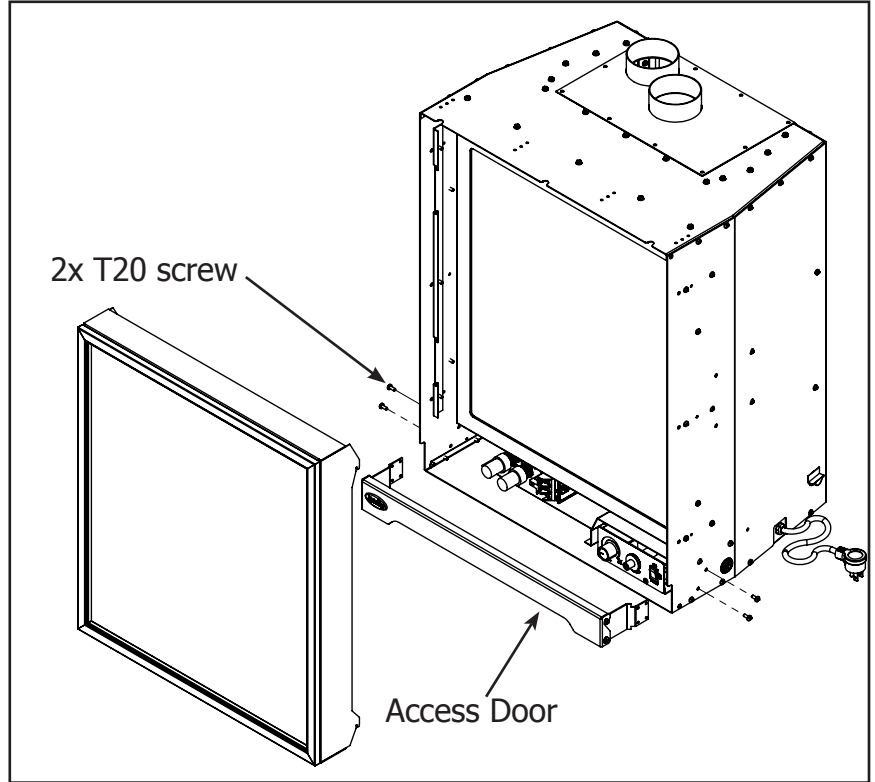

Figure 2: Screen and Access Door Removal
**Step 2:** Remove the two (2) T20 screws on each side of the cabinet that hold the access door to the Q1 (shown in Figure 2). The access door is no longer needed.